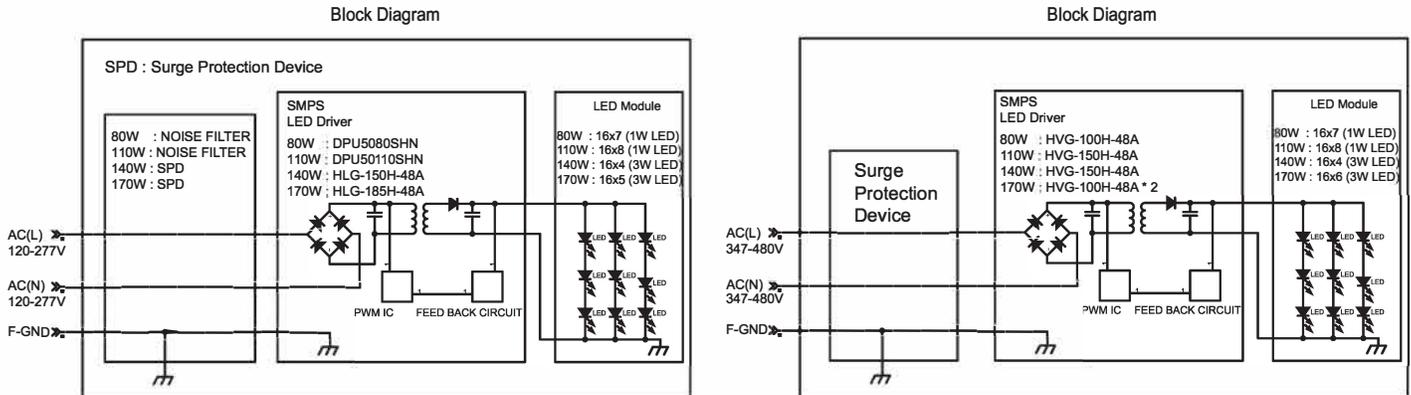

Figure 7
- Connect supply wires to luminaire wire leads per the attached wiring diagrams using methods that comply with all applicable codes. (See Figure 7) Tighten all electrical connections.
- Connect supply wires to luminaire wire leads per the attached wiring diagram using methods that comply with all applicable codes. (See Figure 7)